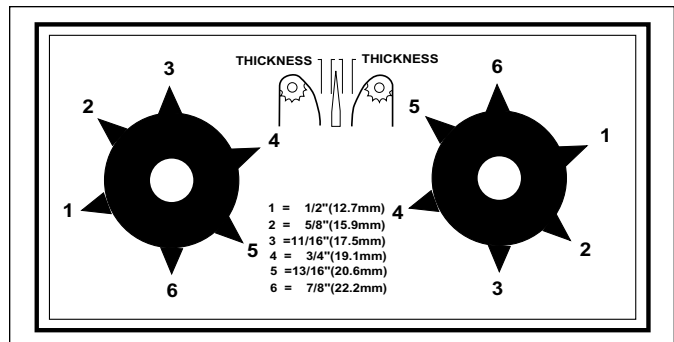

Figure 3. Bun Thickness Compression Knobs
1. Set the Bun Thickness Compression Knobs (Figure 3) to the desired settings for crown and heels.
NOTE: The Bun Thickness Compression Knobs (Figure 3) must be set to “6 & 6” prior to measuring or removing or reinstalling the Conveyor Belt Chains.